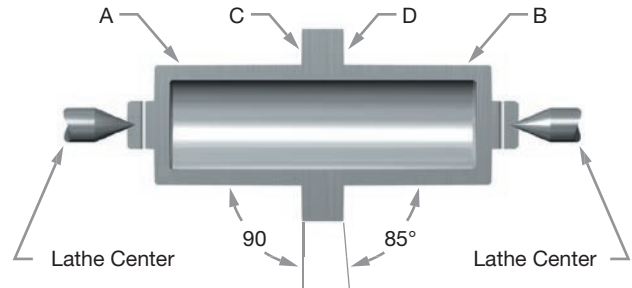

Figure 25: Nozzle Lap in a Lathe
Machine the standard disc seating surface (see Figure 25) as follows:
1. Grip the disc (6) in a four-jaw independent chuck (or collet, if appropriate), using a piece of soft material such as copper or fiber between the jaws and the disc (see Figure 25).
2. True-up the disc (6) so that the surface marked B and C run true within .001" (0.025 mm) on the total indicator reading (see Figure 25).
or T (Figures 30a, 30b, 30c and Tables 5a and 5b) is reached. Do not reestablish surface C (see Figure 25).